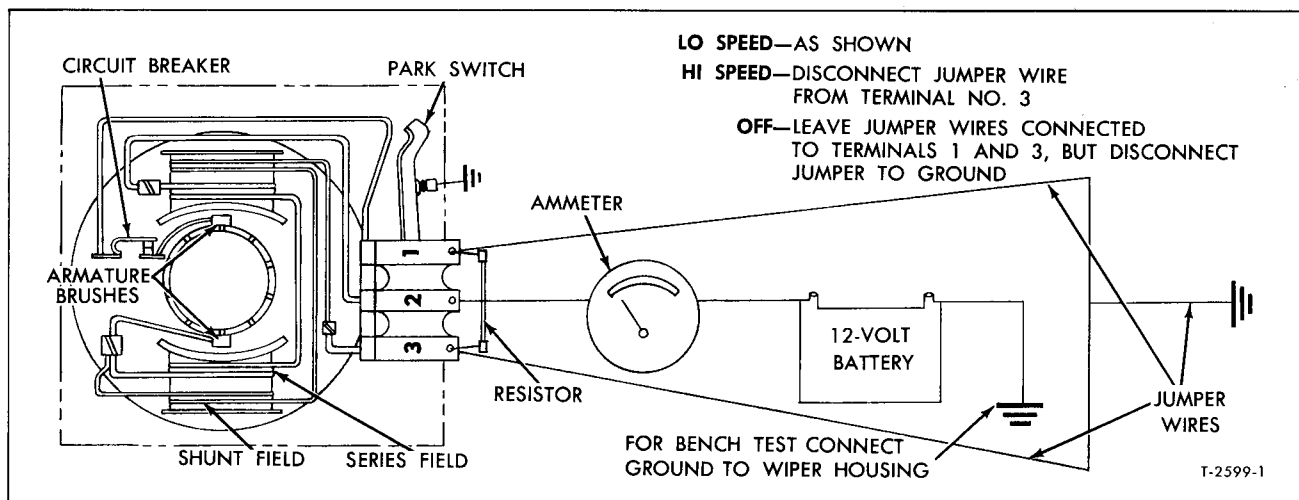

Figure 16—Wiper Motor Test Schematic
NOTE: Refer to "Windshield Wiper Wiring Diagram" in back of manual and figure 16 when troubleshooting electrical circuit.
2. Disconnect wiring harness from wiper motor and relay. Operating wiper independently of the dash switch as shown in figure 16. If wiper operates correctly independently of the dash switch
3. If wiper still fails to operate correctly, remove unit, then remove covering from over drive gears and check parking switch contacts which may be broken or stuck in closed position. Check for a grounded lead at No. 1 or No. 3 terminal (fig. 16), or for a grounded shunt field.
6. With harness disconnected from motor, try operating motor as shown in figure 16. If wiper fails to operate, remove unit from vehicle for disassembly.
Connect 12 volt supply and ammeter (30 amp) to wiper motor as shown in figure 16 (for "Low" speed operation) and observe current draw and wiper operation.